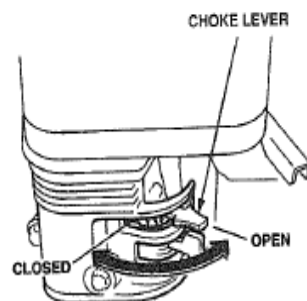

Figure 13. Choke Lever
3. Place the **Choke Lever** (Figure 13) in the "OPEN" position.